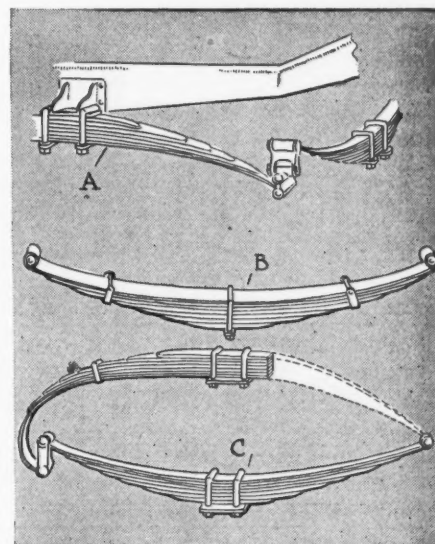

FIG. 4.—FOUR TYPES OF SPRINGS: A, PLATFORM; B, SEMI-ELLIPTIC; C, THREE-QUARTER ELLIPTIC AND ELLIPTIC
**Springs**—Fig. 4 shows the three types of springs mentioned in the tables. B, being of the semi-elliptic class, C of the three-quarter elliptic, and, when the dotted line is taken into consideration, the
The method of spring suspension varies with each make of commercial vehicle. The shackle bolt which holds the platform spring to the semi-elliptic is made in any number of shapes and sizes. The suspension lettered A in Fig. 4 shows the platform spring secured to the rear of the frame and attached at its ends to a semi-elliptic spring. The clips shown around the spring leaves, whose number usually varies with each make of car, prevent the leaves from spreading and are not always in evidence.